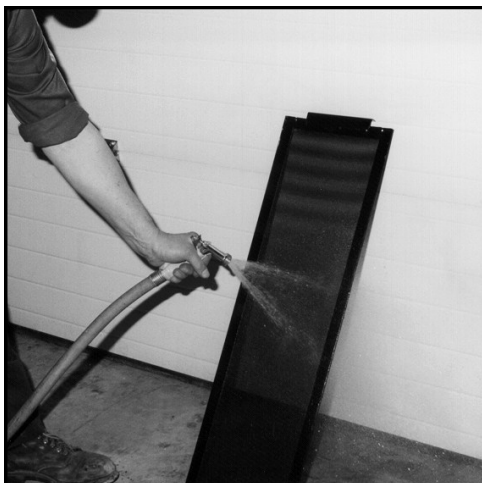

FIG 7.20
**CLEANING** - Compressed air will dislodge most large trash or loose dirt after the screens have been removed (fig. 7.20). Blow out the screens away from the machine. Water from a pressurized hose may also be used, or if necessary the screens may be soaked in soapy water and scrubbed with a brush.